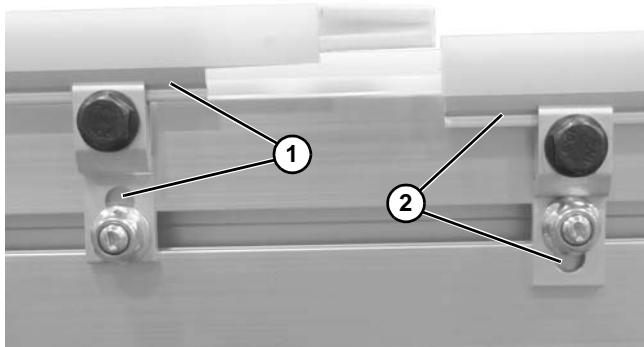

Figure 30
Guiding can be assembled in a high position (**Figure 30, item 1**) or a low position (**Figure 30, item 2**).